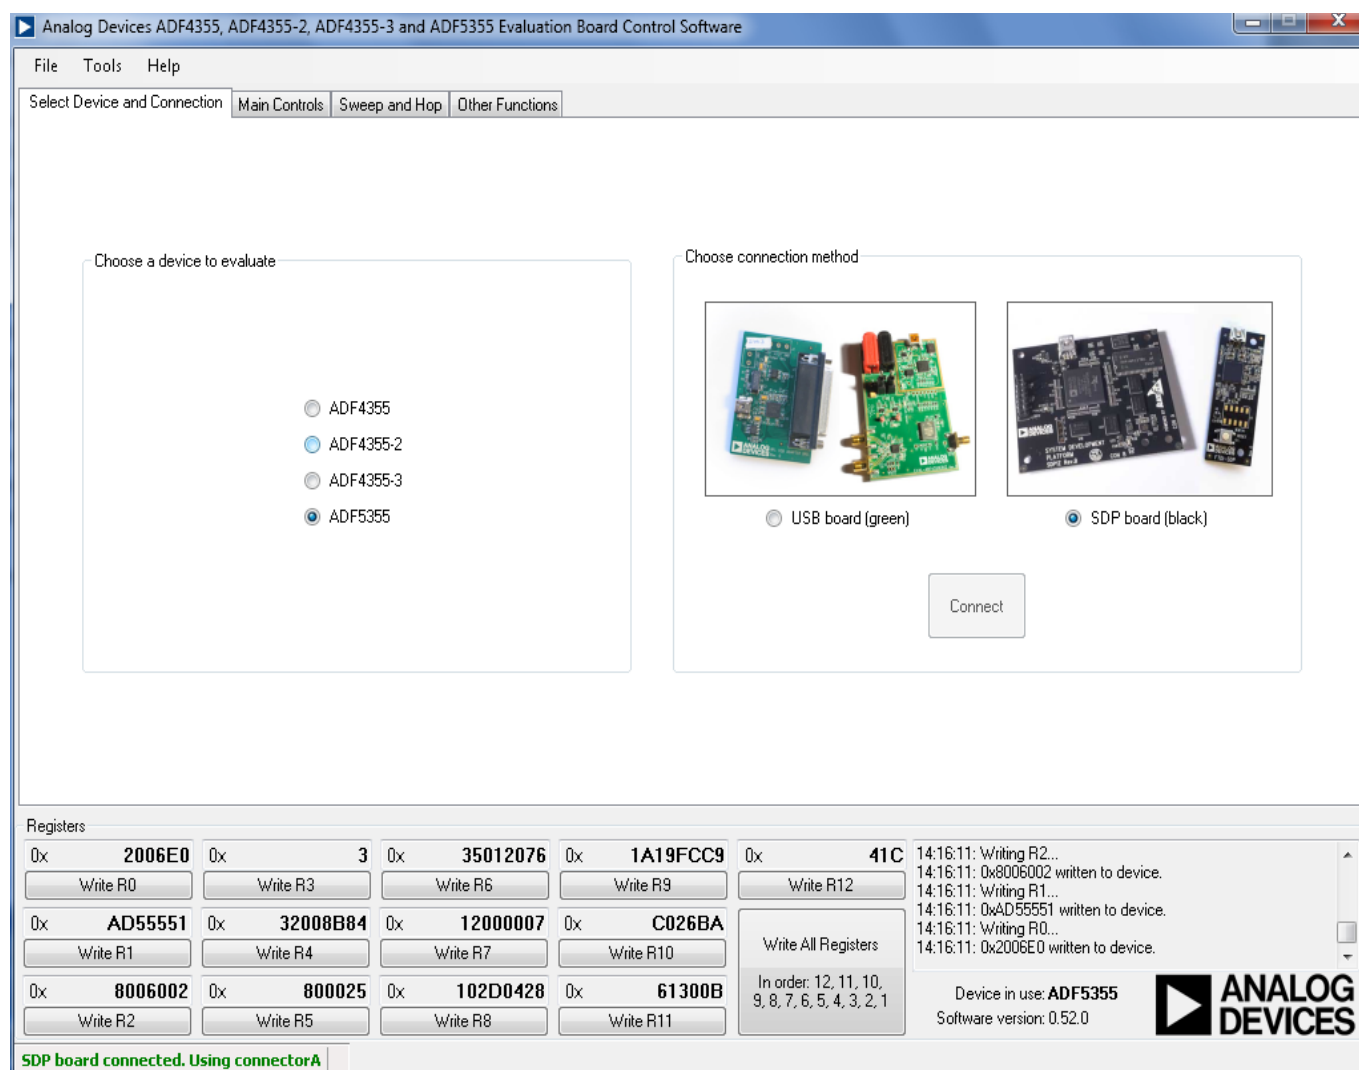

Figure 2. Software Front Panel Display—Select Device and Connection
2. On the **Select Device and Connection** tab, choose **ADF5355** and **SDP board (black)**, and then click **Connect** (see Figure 2).
8. Select **ADF5355** and **SDP board (black)** in the **Select Device and Connection** tab of the software front panel display window (see Figure 2).